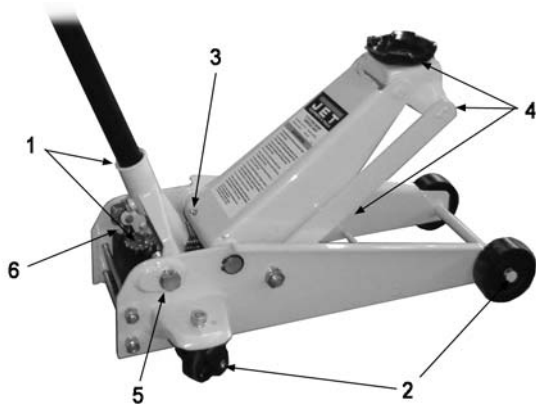

Figure 1 – Lubrication points
**Note:** Lubricate before initial operation, and periodically to ensure smooth operation. Lubricate jack at points 1 through 6, as indicated in Figure 1.